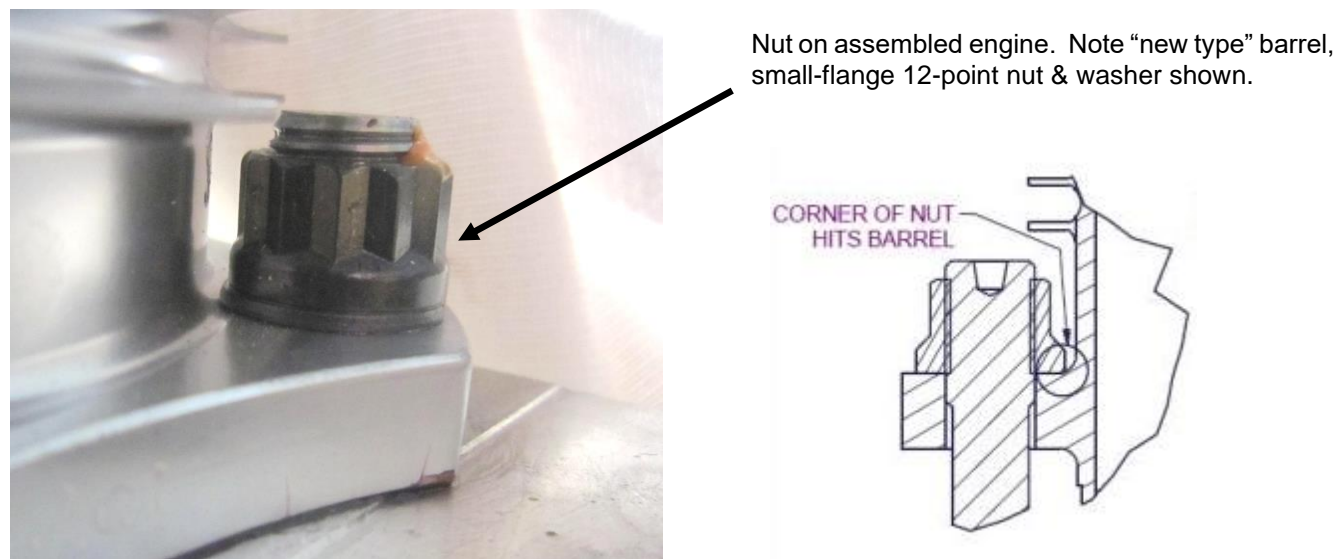

Figure 145 – Through Bolt Nut Installation Detail
- Check that all nuts and washers are clear of the radius on the base of the cylinder barrel. Figure 145 (right) shows how using certain (large-flange) nuts can result in the nut hitting on the radius at the cylinder base. To avoid this it is necessary to use a “Small-flange” nut per Figure 145 left, or a nut which has been modified – the diameter of the nut base can be reduced in a lathe. This requirement also applies to the washers used: these parts are custom made for Jabiru from hardened steel – substitutes must not be used.